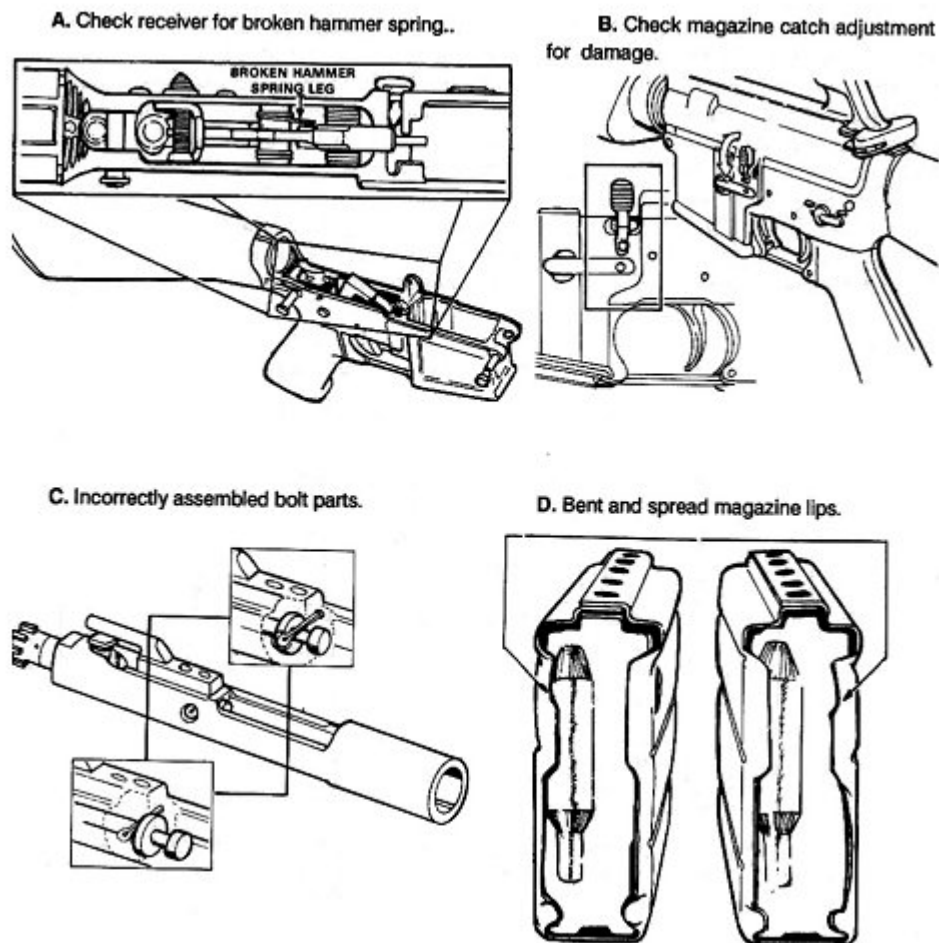

Figure 3-3. Other possible malfunctions.
(1) The bolt fails to remain in a rearward position after the last round in the magazine is fired. Check for a bad magazine or short recoil.
(2) The bolt fails to lock in the rearward position when the bolt catch has been engaged. Check bolt catch; turn in to unit armorer.
(3) The weapon fires two or more rounds when the trigger is pulled and the selection lever is in the SEMI position. This indicates a worn sear, cam, or disconnecter. Turn in to armorer to repair and replace trigger group parts as required.
(4) The trigger fails to pull or return after release with the selector set in a firing position. This indicates that the trigger pin (A, Figure 3-3) has backed out of the receiver or the hammer spring is broken. Turn in to armorer to replace or repair.
- (5) The magazine fails to lock into the magazine well (B, Figure 3-3). Check the magazine and magazine catch for damage. Turn in to armorer to adjust the catch; replace as required.
- (6) Any part of the bolt carrier group fails to function (C, Figure 3-3). Check for incorrect assembly of components. Correctly clean and assemble the bolt carrier group, or replace damaged parts.
- (7) The ammunition fails to feed from the magazine (D, Figure 3-3). Check for damaged magazine. A damaged magazine could cause repeated feeding failures and should be turned in to the armorer or exchanged.